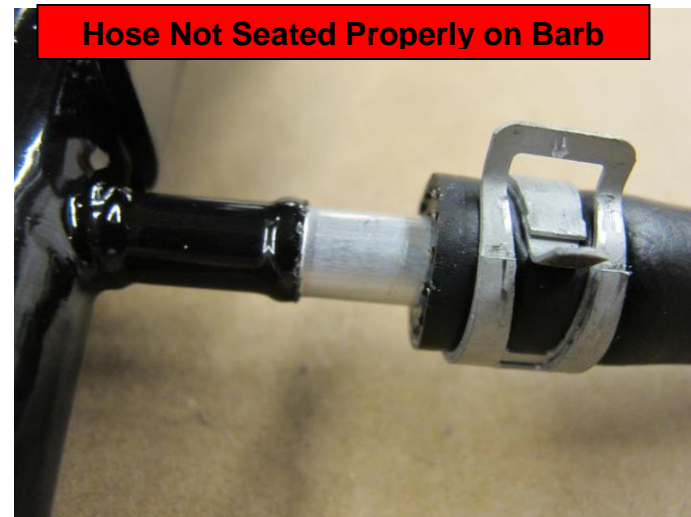

Figure 17
- Hose not seated properly on barb (Check hose insertion length) (Figure 17).